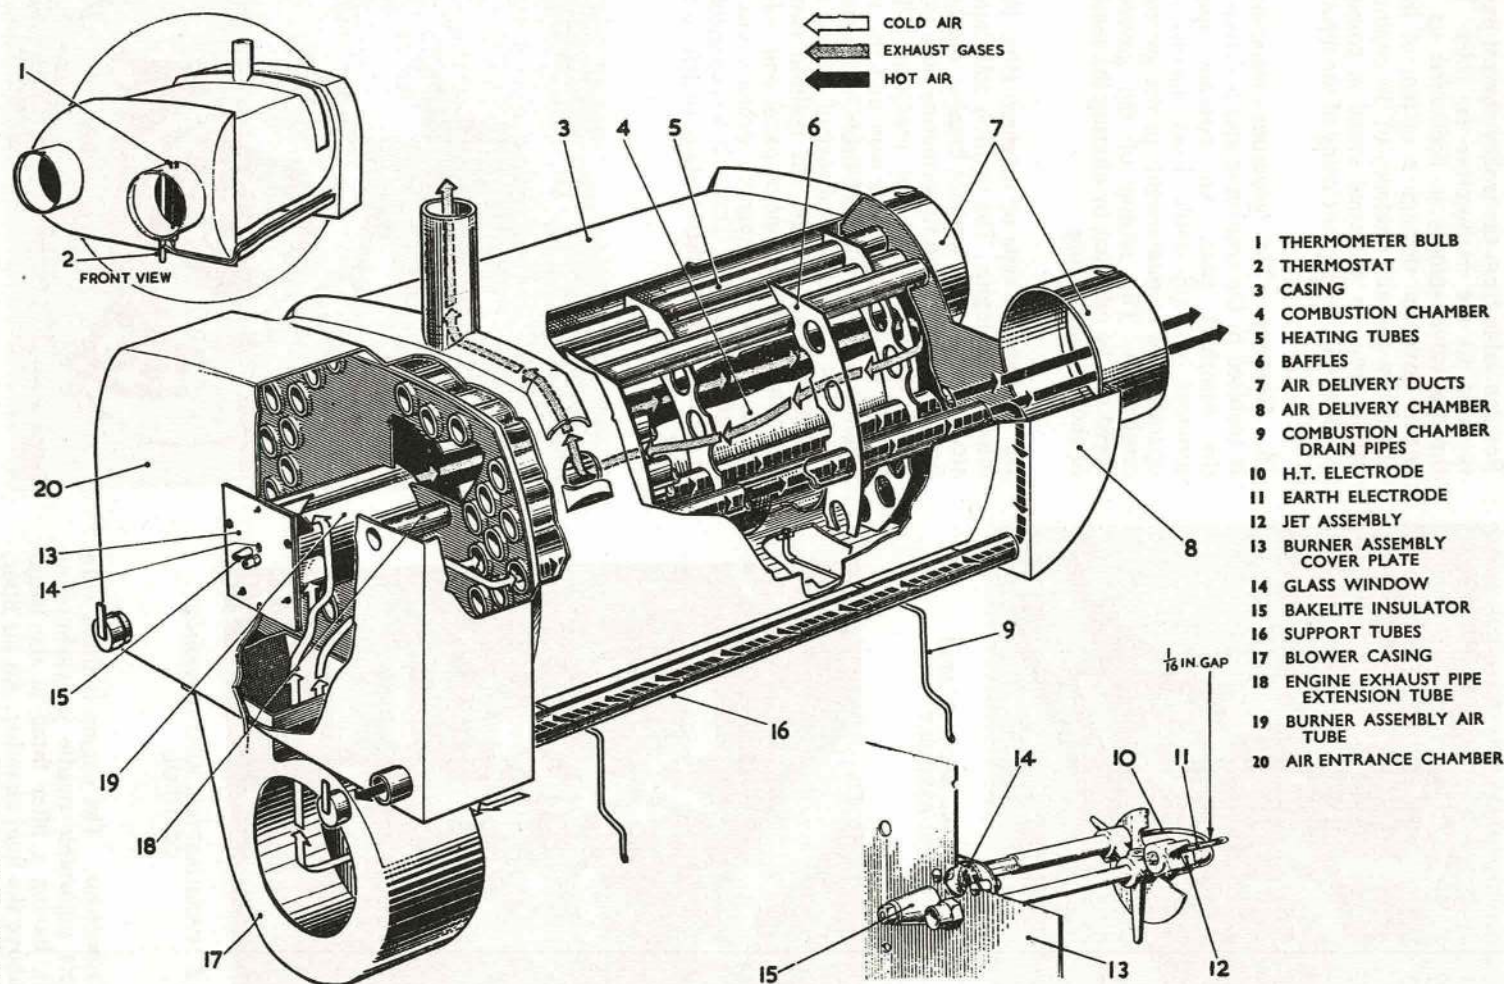

Fig. 6. HEAT EXCHANGER
12. The heat exchanger (Fig. 6) transfers heat, generated by the combustion of gasoline, to the air being forced through it by means of a blower. To prevent an accumulation of unburnt fuel in the combustion chamber, with the consequent risk of an explosion, two holes drain any surplus fuel into the casing whence it passes out through two drain pipes. The heat from the engine exhaust gases is also utilized, and this arrangement obviates the need for a silencer. The fuel burner assembly is very similar in design and operates in the same manner as the assembly described in chapter 4 of this section. Two flexible hoses having male and female ends are used to convey the hot air from the heat exchanger delivery ducts.